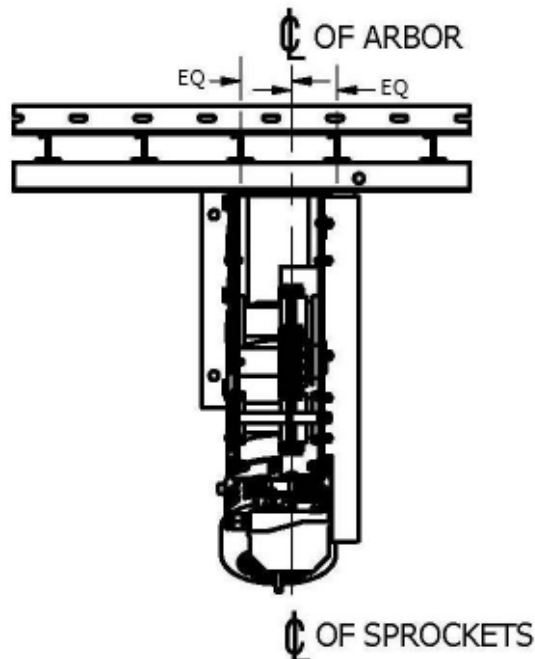

Figure 7: Centering the sprockets beneath the arbor
2. Place the PowerAssist on the floor beneath the arbor. Center the sprockets between the guide tees as seen in Figure 7.